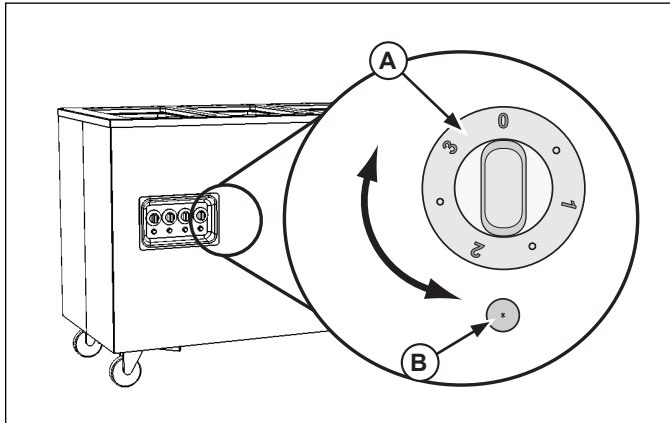

Figure 4. Standard Hot Well Controls
- (A) TEMPERATURE CONTROL** dial. Used to set or adjust the temperature of the well. The higher the number the higher the temperature, the lower the number the lower the temperature. The “0” position is off.
- (B) POWER** light. Illuminates when the well is in the heating mode.
4. Preheat the water in the wells by covering wells with empty food containers or covers. Turn the temperature control (A) to the maximum heat setting. See Figure 4. Preheat for 60 minutes.